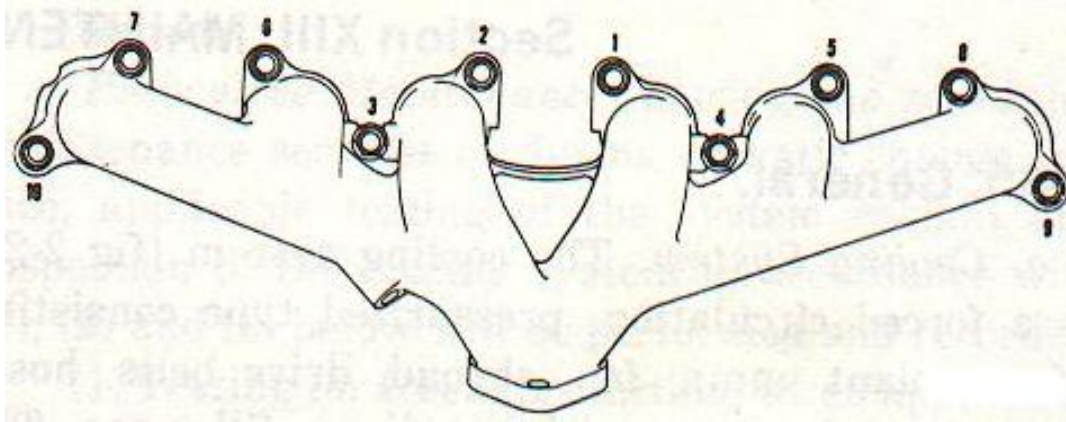

Figure 2-22. Exhaust manifold nut tightening sequence.
- (1) Install new exhaust manifold gasket.
- (2) Position exhaust manifold on cylinder head assembly.
- (3) Install ten flat washers and attaching nuts. Tighten to 25-30 lbs-ft. in sequence as shown in figure 2-22.
- (4) Position new exhaust pipe gasket on exhaust pipe flange.
- (5) Connect exhaust pipe to manifold. Position exhaust pipe flange to manifold flange and install two bolts and hex nuts, Tighten nuts to 20-30 lbs-ft.